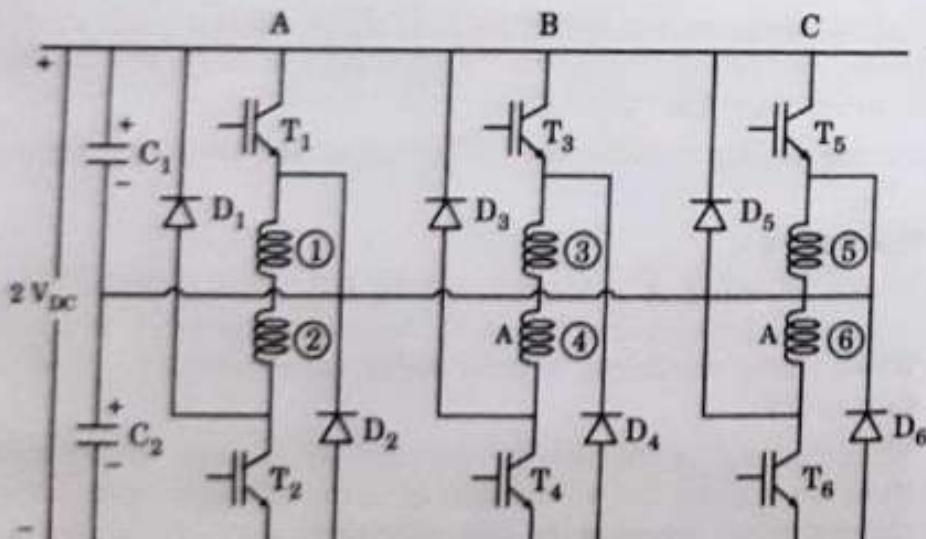

Fig. 3.7.2. Split power supply converter.
- Fig. 3.7.2 shows the circuit of split power supply converts the main power supply $2V_{DC}$ into two half using split capacitors.
- Fig. 3.7.2 shows the switching circuit of phase winding using bipolar wires. Each stator pole carries a coil using bipolar wire.